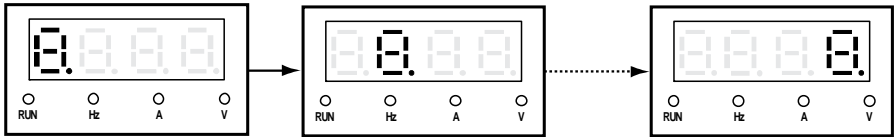

Figure 3-5 Self-testing of LED of YS-P01 panel
1. Press  key and  key, the panel's four LEDs will cyclically display "8." from left to right in turn for three times which is as shown is Figure 3-5.